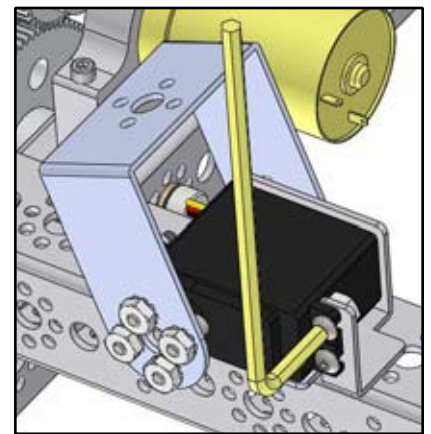

Figure B7
- 4) Place the servo into the motor bracket, stretching the unattached side of the pivot bracket so the horn fits into the servo's motor shaft. Secure the servo to the motor bracket with 3/8" BHCSs (Figure B7).